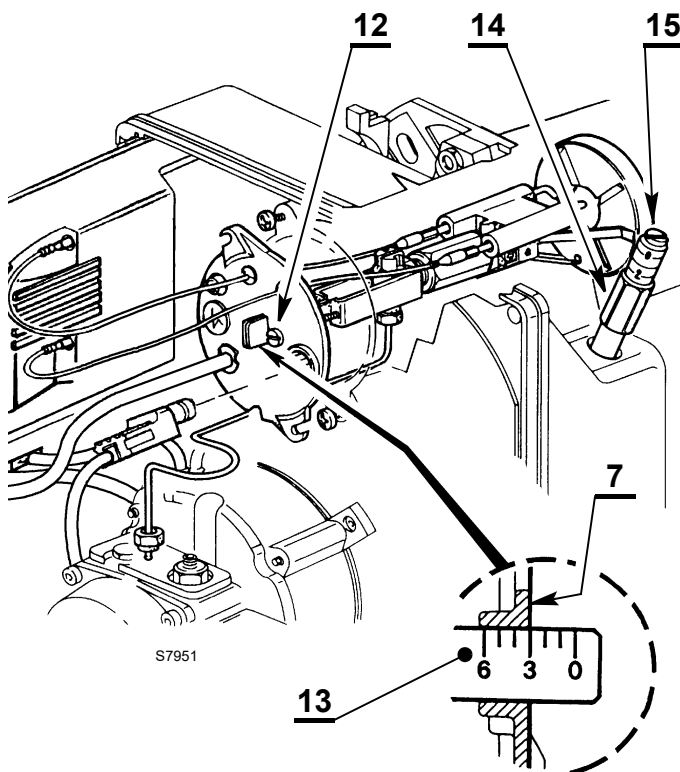

Fig. 20
- turn the adjustment screw 12)(Fig. 20) clockwise or anti-clockwise until the notch on the regulating rod 13)(Fig. 20) lines up with the external surface of the nozzle holder assembly 7)(Fig. 20).
- Loosen the nut 14)(Fig. 20) and calibrate the damper by acting on the screw 15)(Fig. 20).